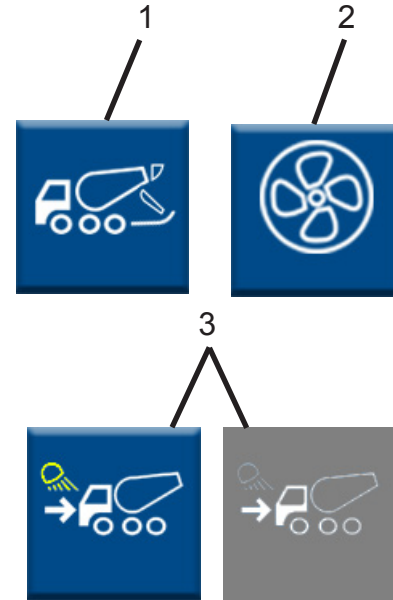

Figure 19
- Remote PTO mode (Figure 19, Item 1). The icon will be grayed out if not turned on.
- Hydraulic Fan (this function is already engaged if the temperature is over 140°F) (Figure 19, Item 2). The icon will be grayed out if not turned on.
- Work Lights ON in Reverse (Figure 19, Item 3). Use work lights on in reverse at a job site only. Using work lights on in reverse while on the roadway is not recommended and may not comply with applicable laws. The icon will be grayed out if not turned on.